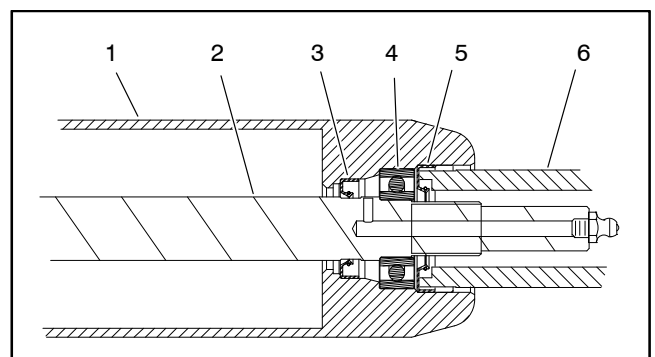

Figure 52
D. Carefully install first outer seal into roller tube making sure that seal lip (and garter spring) faces end of tube. Use bearing/outer seal tool (see Special Tools) and soft face hammer to lightly seat seal (Fig. 52). Make sure that shaft and bearings still freely rotate after seal installation.